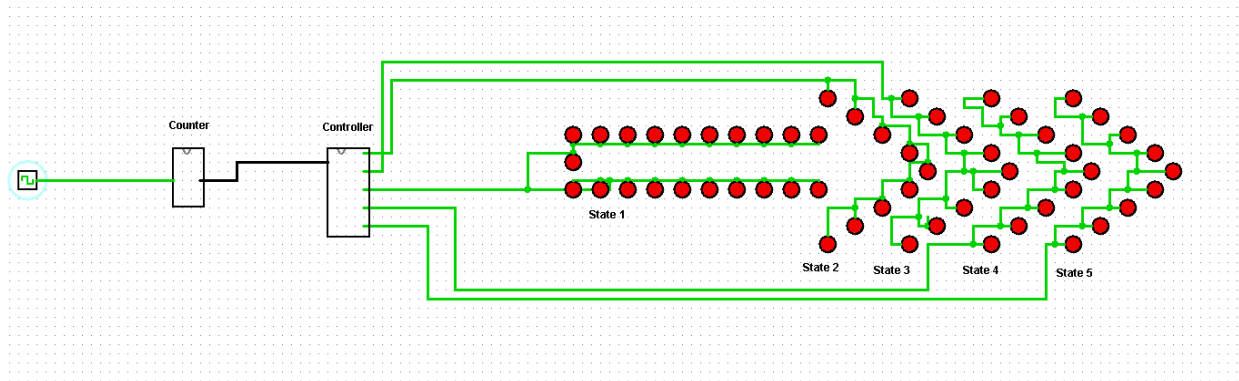

Figure 1: Circuit Components
The main job of a navigation sign is to inform drivers which direction they should navigate to due to construction or unexpected events. In this assignment you will create a circuit that will manage how led lights will be turned on and off in such a signal. This will be done in such a way to grab the attention of the drivers to the direction of the arrow it's pointing to. **Figure 1** shows how your overall circuit should look like.
The LEDs in the arrow of Figure 1 will be lit in the direction of the arrow in a sequential order, and then they will all flash. The order in which the LEDs are lit is done in five stages (indicated as states in Figure 1). The order in which the arrow is animated depends on a “tick” value and is performed as follows:
- ☐ **Navigation sign controller:** Build a light controller managing the states of the navigation arrow of Figure 1.
2. Use building blocks to create the corresponding components (Your design should be modular). See Figure 1.